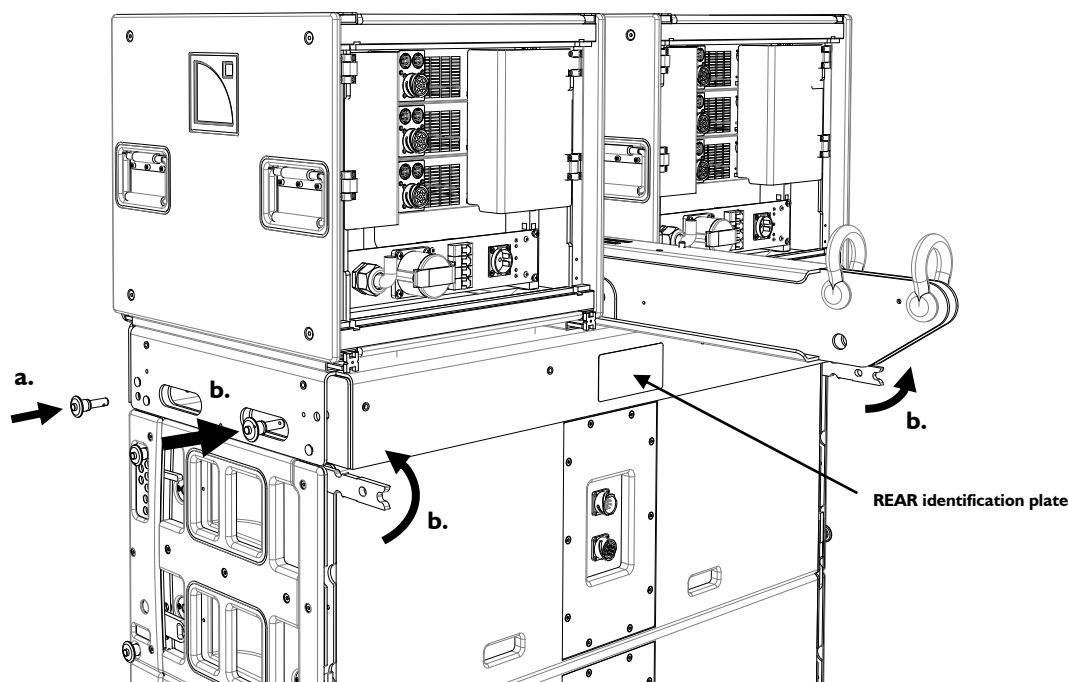

Figure 16: Attaching KI-BUMP to TOWER#1 (motor hooks not represented)
6. Attach the KI-BUMP to the TOWER#1 as described below (see also Figure 16):
The KI-BUMP must be installed with laser slits oriented towards the front of the array (or REAR identification plate towards the rear, as it is shown in Figure 16).